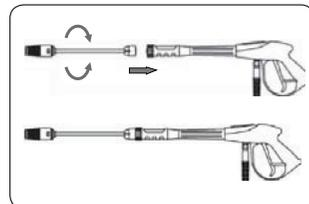

FIGURE 12
6. Connect the spray nozzle to the prior set (figure 12)